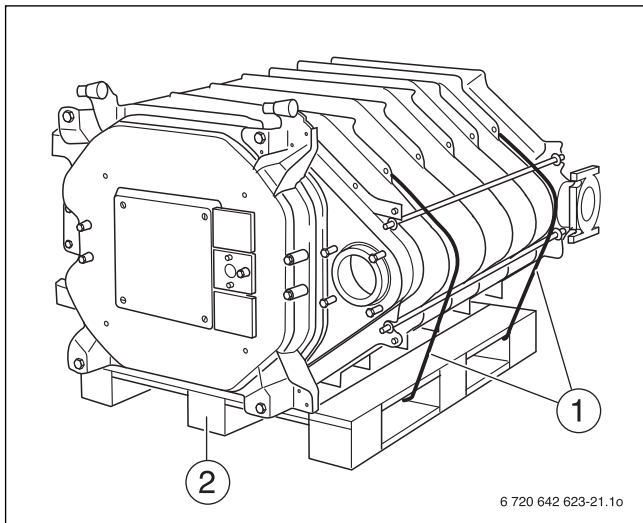

Fig. 23 Boiler block on pallet
- ▶ Cut the straps (→ Fig. 23, [1]).
- ▶ Remove the pallet prior to positioning the boiler block (→ Fig. 23, [2]).